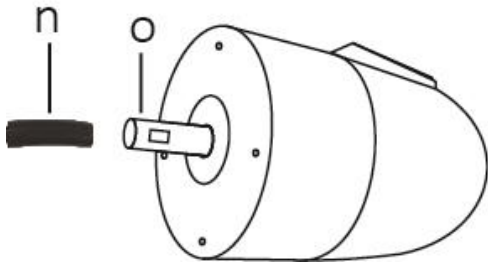

fig.9
1. Remove the black protective sleeve (n) from the motor shaft (o). (fig.9)